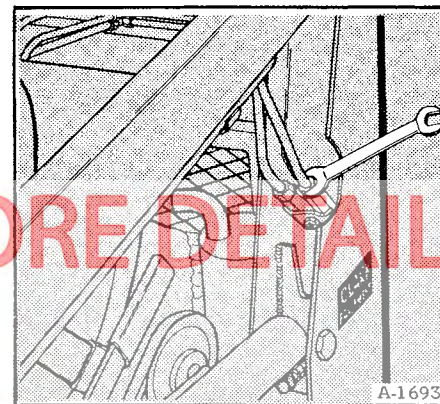

Fig. 48 Checking Lift Cylinder Seals
2. Disconnect the tube from the hose line which leads to the cylinder base port (Figure 48). Plug the tube with a 1/2" NF SAE male plug.